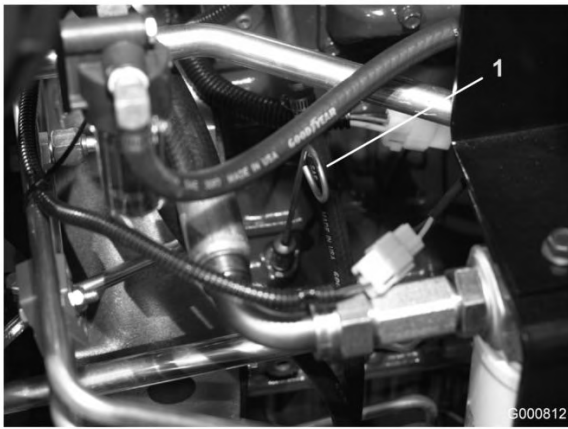

Figure 31
2. Remove dipstick (Figure 31), wipe clean and reinstall dipstick. Pull it out again and check oil level on dipstick: Oil level should be up to FULL mark on dipstick.